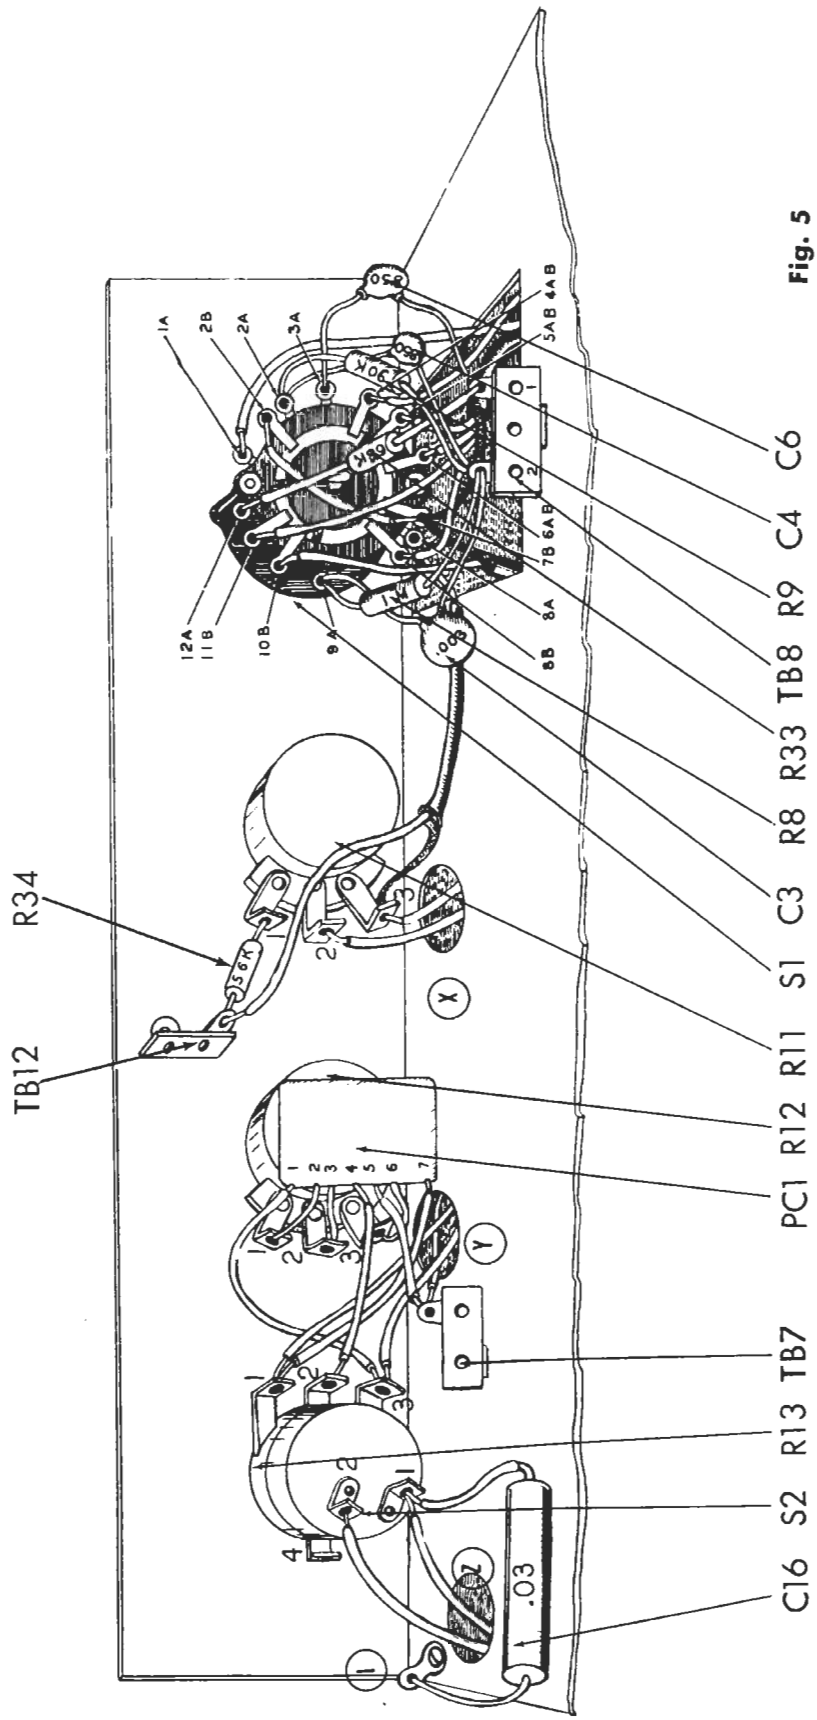
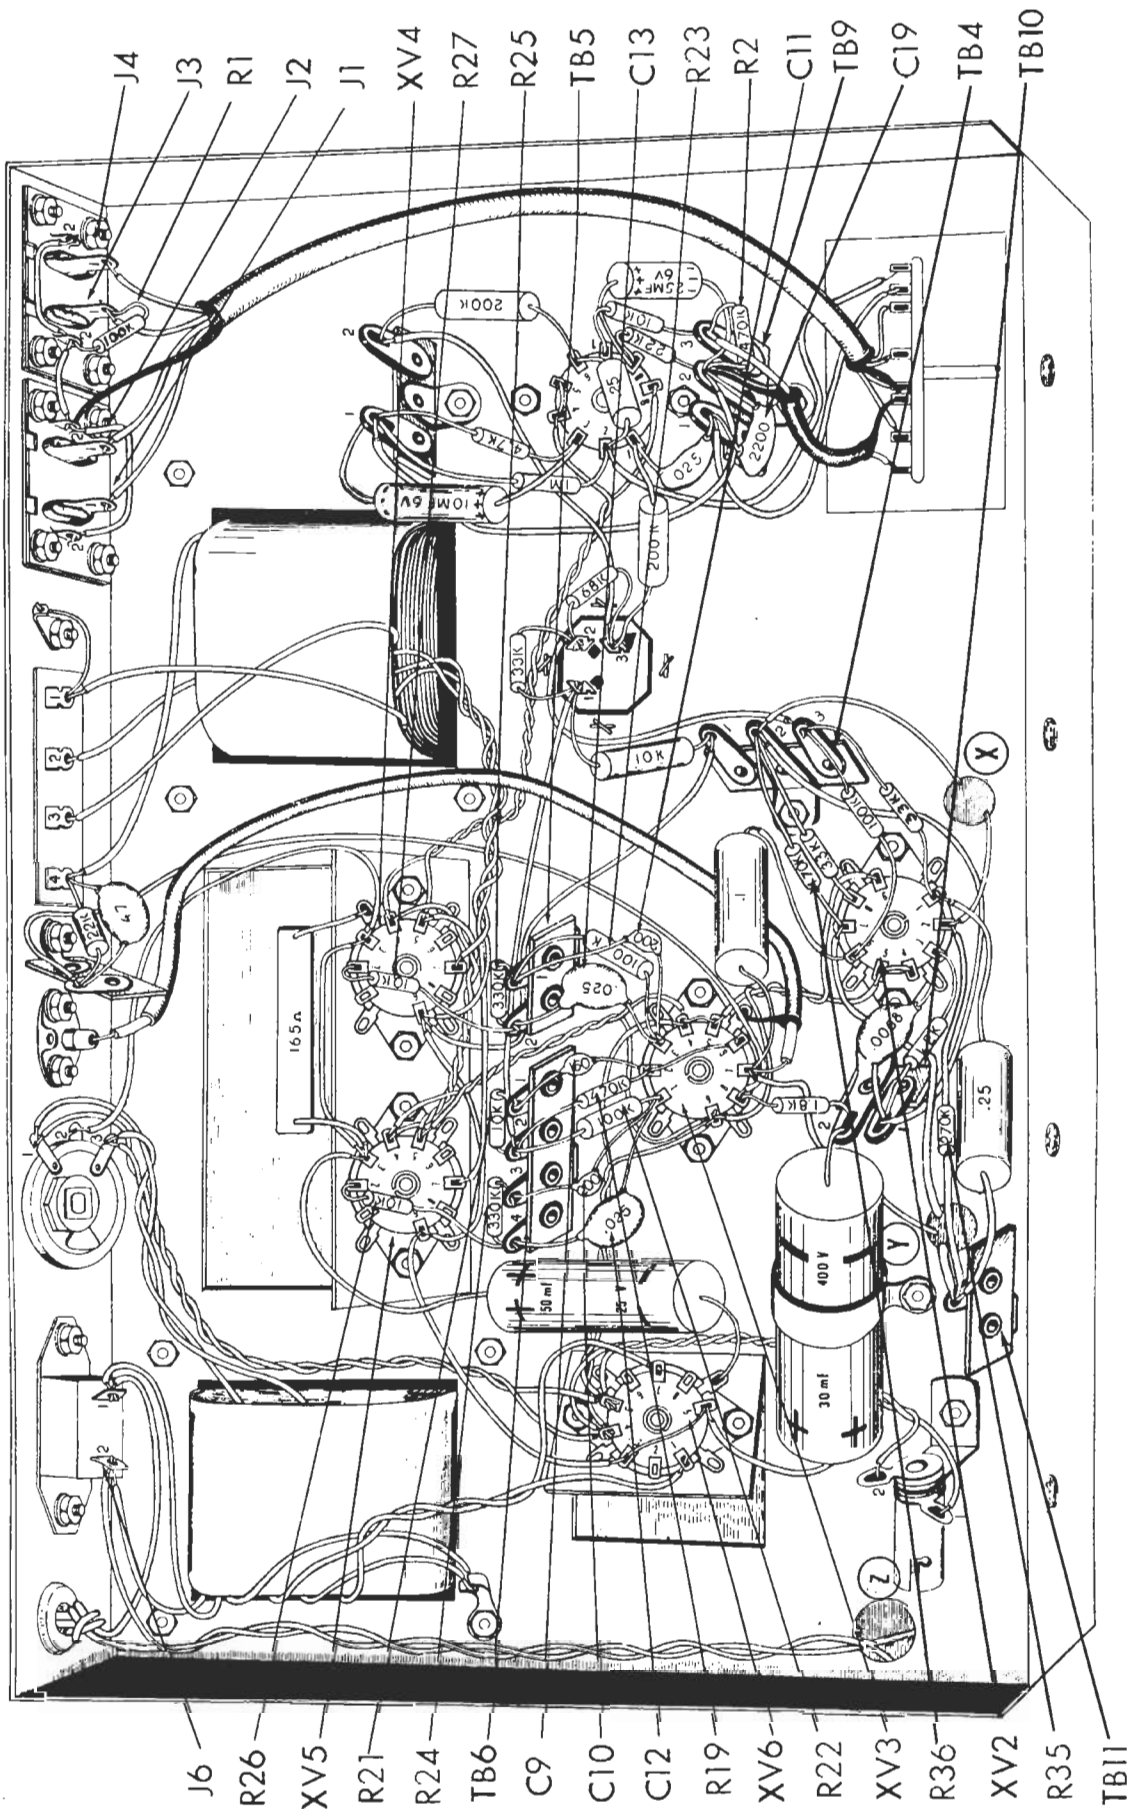

Fig. 5
Fig. 6
1. () Fig. 5. Strip the outer insulation of one end of the 4 conductor cable back 1 3/4". Unwrap the outer shield and twist shield strands. Cut the outer shield to 1/2", the brown lead to 3/4", the red lead to 1" and the yellow lead to 1 1/4". Connect the shield wire to S1-7B (C), the brown lead to S1-6AB (S), the red lead to S1-5AB (S), the orange lead to S1-11B (S) and the yellow lead to S1-8B (S). Push the remainder of the shielded lead through the rectangular hole under the switch to the bottom of the chassis.
2. () Fig. 5. Strip the outer insulation of one end of a 3 1/2" piece of single conductor shielded wire back 1". Unwrap the outer shield and twist shield strands. Cut the outer shield to 1/2". Connect the shield wire to S1-7B (C) and the inner conductor to S1-10B (S). Push the remainder of the shielded lead through the rectangular hole under the switch to the bottom of the chassis.
3. () Fig. 5. Connect a 2" piece of bare wire covered with 1 1/2" of spaghetti from S1-7B (S) to S1-2B (S).
4. () Fig. 5. Strip the outer insulation of one end of a 4 1/2" piece of single conductor shielded wire back 1/2". Unwrap the shield and cut off. Strip the insulation of the inner conductor back 1/4" and connect to S1-8A (S). Strip the outer insulation on the other end back 3/4". Unwrap the outer shield and twist shield strands. Strip the insulation of the inner conductor back 1/4" and connect to TB12 (C). Cut the shield strands to 1/2" and connect to R11-3 (C).
5. () Fig. 5. Connect a 3" piece of black wire to R11-3 (S). Push the remainder through hole "X".
6. () Fig. 5. Connect one end of a 2" piece of green wire to S1-4AB (S). Push the rest of the lead through the rectangular cutout under the switch to the bottom of the chassis.
7. () Fig. 5. Connect one end of a 4" piece of yellow wire to S1-1A (S). Running lead as shown, push the rest of the lead through the rectangular cutout under the switch to the bottom of the chassis.
8. () Fig. 5. Connect a 850mmf disc ceramic capacitor, C6, from S1-3A (S) to TB8-1 (C). Cut both leads to 1".
9. () Fig. 5. Connect a 68KΩ (blue, grey, orange, gold) 5% resistor, R33, from S1-12A (S) to TB8-1 (S). Cut both leads to 1" and cover each with a 3/4" piece of spaghetti.
10. () Fig. 5. Connect a 90KΩ (white, black, orange, gold) 5% resistor, R9, and an 850mmf disc ceramic capacitor, C4, from S1-2A (S) to TB8-2 (C). Cut all leads to 1".
11. () Fig. 5. Connect a 1MΩ (brown, black, green, silver) 10% resistor, R8, and a 3000mmf disc ceramic capacitor, C3, from S1-9A (S) to TB8-2 (S). Cut all leads to 1".
12. () Fig. 5. Connect one end of a 2 1/2" piece of green wire to R11-2 (S). Push the remainder of the wire through hole "X" near R11 to the bottom of the chassis.
13. () Fig. 5. Connect one end of a 4" piece of green wire to TB7 (C). Push the remainder of the wire through hole "Y" near R12 to the bottom of the chassis.
14. () Fig. 5. Connect one end of a 5" piece of yellow wire to R13-1 (C). Push the remainder of the wire through hole "Y" near R12 to the bottom of the chassis.
15. () Fig. 5. Connect the black lead that passes through hole "Y" to R13-3 (C).
16. () Fig. 5. Cut and connect the leads on the printed circuit board PC1, in the prescribed sequence as follows. Put 2 1/4" of spaghetti on lead 1; 1 1/2" of spaghetti on lead 4; 1" of spaghetti on lead 5 and 2" of spaghetti on lead 7.
17. () Fig. 5. Connect the .03mfd molded capacitor, C16, from S2-1 (C) to ground lug "1" (S). Cut both leads to 1 1/2". Cover the lead going to S2-1 with 1 1/4" spaghetti.
18. () Fig. 5. Cut both leads on a 56KΩ (green, blue, orange, silver) resistor, R34, to 1/2". Connect from TB12 (S) to R11-1 (S).
1. () Fig. 6. Connect a 1" piece of bare wire from XV3-6 (S) to XV3-2 (C).
2. () Fig. 6. Connect a 100K Ω (brown, black, yellow, gold) 5% resistor, R23, from XV3-3 (C) to TB5-1 (C). Cut both leads to 3/4".
3. () Fig. 6. Connect a 200 mfd disc ceramic capacitor, C11, from XV3-3 (C) to TB5-1 (C). Cut both leads to 1".
4. () Fig. 6. Connect a .025 mfd disc ceramic capacitor, C13, from XV3-3 (S) to TB5-2 (C). Cut both leads to 3/4".
5. () Fig. 6. Connect a 470K Ω (yellow, violet, yellow, silver) resistor, R19, from XV3-2 (C) to TB6-2 (C). Cut both leads to 3/4".
6. () Fig. 6. Connect a 100K Ω (brown, black, yellow, gold) 5% resistor, R22, from XV3-1 (C) to TB6-2 (C). Cut both leads to 3/4".
7. () Fig. 6. Connect a 150 mfd disc ceramic capacitor, C9, from XV3-2 (S) to TB6-1 (C). Cut both leads to 3/4".
8. () Fig. 6. Connect a .025 mfd disc ceramic capacitor, C12, from XV3-1 (C) to TB6-4 (C). Cut both leads to 3/4".
9. () Fig. 6. Connect a 200 mfd disc ceramic capacitor, C10, from XV3-1 (S) to TB6-3 (C). Cut both leads to 3/4".
10. () Fig. 6. Connect a 330K Ω (orange, orange, yellow, silver) resistor, R25, from TB5-1 (S) to TB5-2 (C). Cut both leads to 1/2". Push the resistor down towards the chassis.
11. () Fig. 6. Connect a 330K Ω (orange, orange, yellow, silver) resistor, R24, from TB6-3 (S) to TB6-4 (C). Cut both leads to 1/2". Push the resistor down towards the chassis.
12. () Fig. 6. Connect a 10K Ω (brown, black, orange, silver) resistor, R21, from TB6-1 (S) to TB6-2 (S). Cut both leads to 1/2". Push the resistor down towards the chassis.